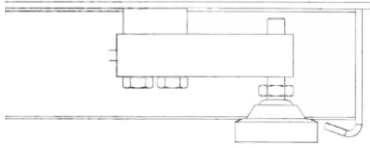

Figure 1c. Load Cell Foot in shipping position.
2. At this position use a 3/4" wrench to rotate the jam nuts until they lock against the load cell. See figures 1c and 1d.